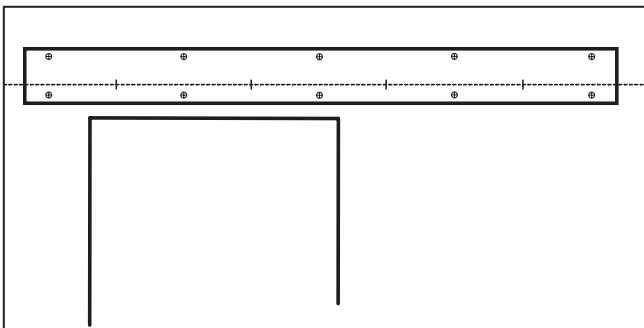

Figure 8
10. Proceed with track installation using the instructions that came with the track (Figure 8).